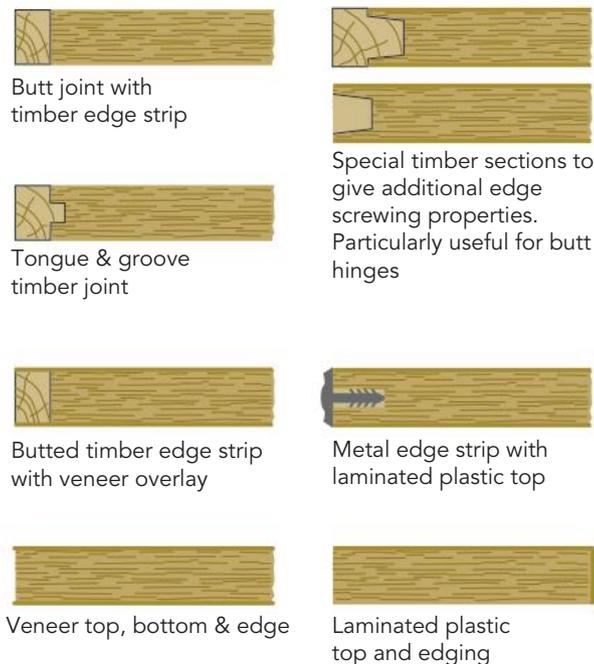

Figure 6.4 Typical edge treatments used on particle board
- Edges require special treatment because of the porous structure (Figure 6.4).